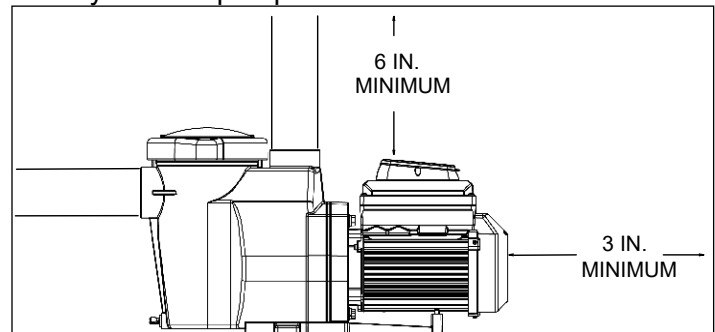

Figure 1
6. Install the pump with a rear clearance of at least 3 inches (7.6 cm) so that the motor can be removed easily for maintenance and repair. **See Figure 1.**